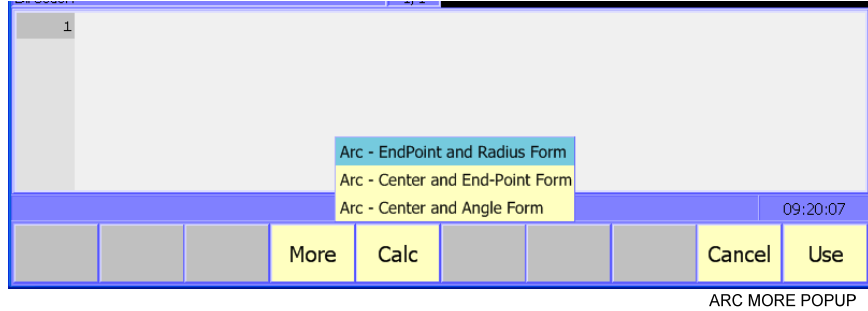

Figure 3-14, Arc More (F4) Pop-up Menu
3. Press **More (F4)** to display the More pop-up menu. Refer to **Figure 3-14, Arc More (F4) Pop-up Menu**.
2. Press **More (F4)** to display the More pop-up menu. Refer to **Figure 3-14, Arc More (F4) Pop-up Menu**.